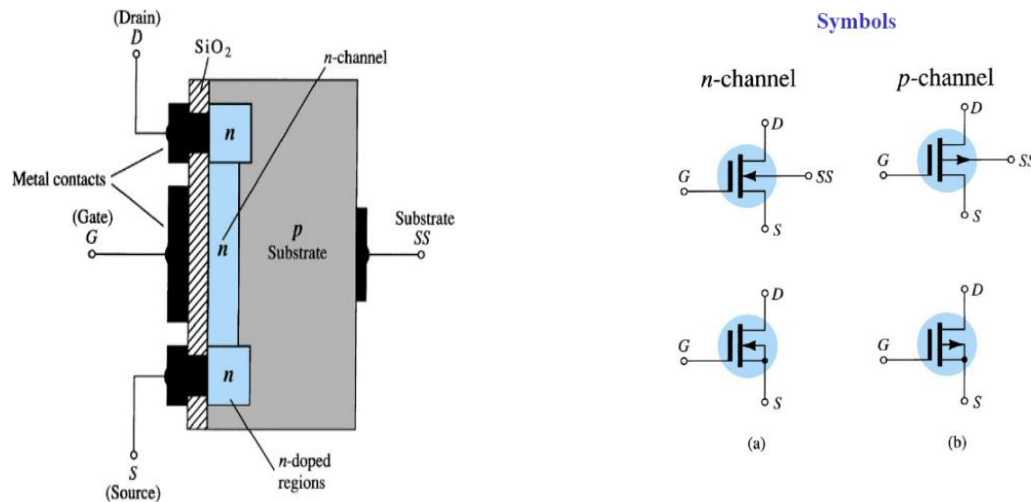

Figure 4.7: Construction of n channel Depletion type MOSFET
Figure 4.7 shows the basic construction of n-channel depletion type MOSFET. The Drain (D) and Source (S) are connected to the n-doped regions. These N-doped regions are connected via an n-channel. This n-channel is connected to the Gate (G) via a thin insulating layer of SiO_2 . The n-doped material lies on a p-doped substrate that may have an additional terminal connection called SS.